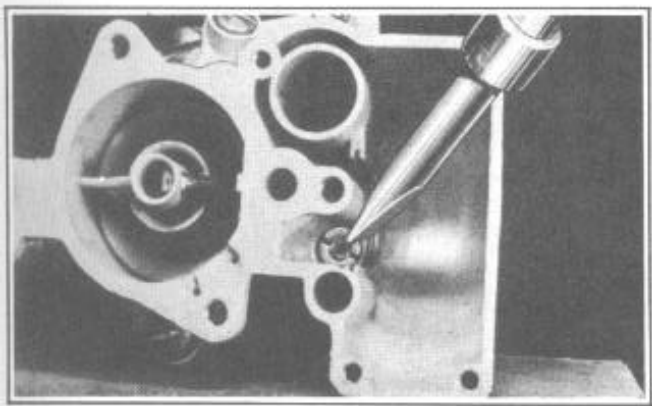

FIGURE 19
5. Remove metering rod jet and gasket assembly, Figure 19.